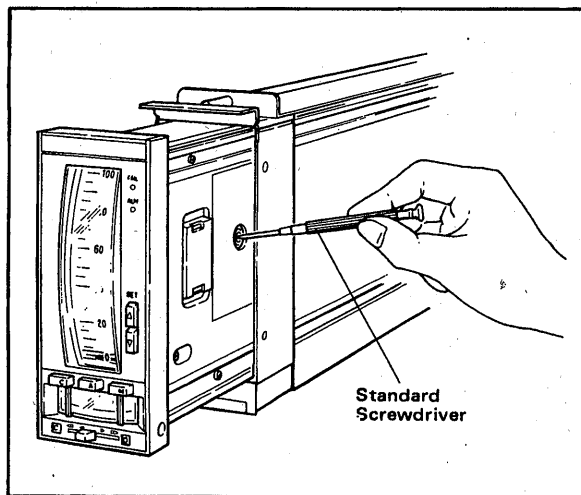

Figure 6-2. Zero Adjustment of Set-point Value Indicator.
- (3) Thereafter, make adjustments as in Section 6-2-1. See Figure 6-2 for the zero adjustment of the set-point value indicator.